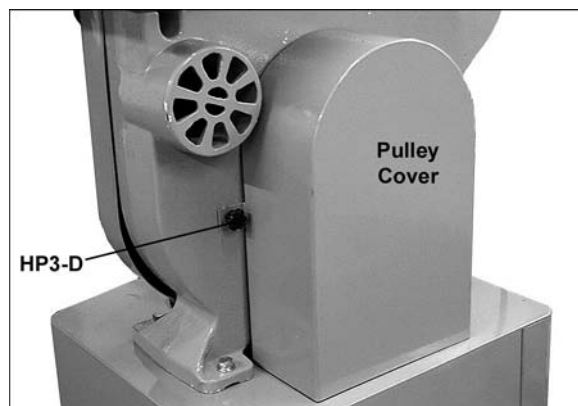

Figure 20
7. Screw the two *pulley cover knobs (HP3-D)* into the threaded holes in the back of the saw, as shown in Figure 20. Slide the pulley cover down over the knobs, and tighten the knobs.